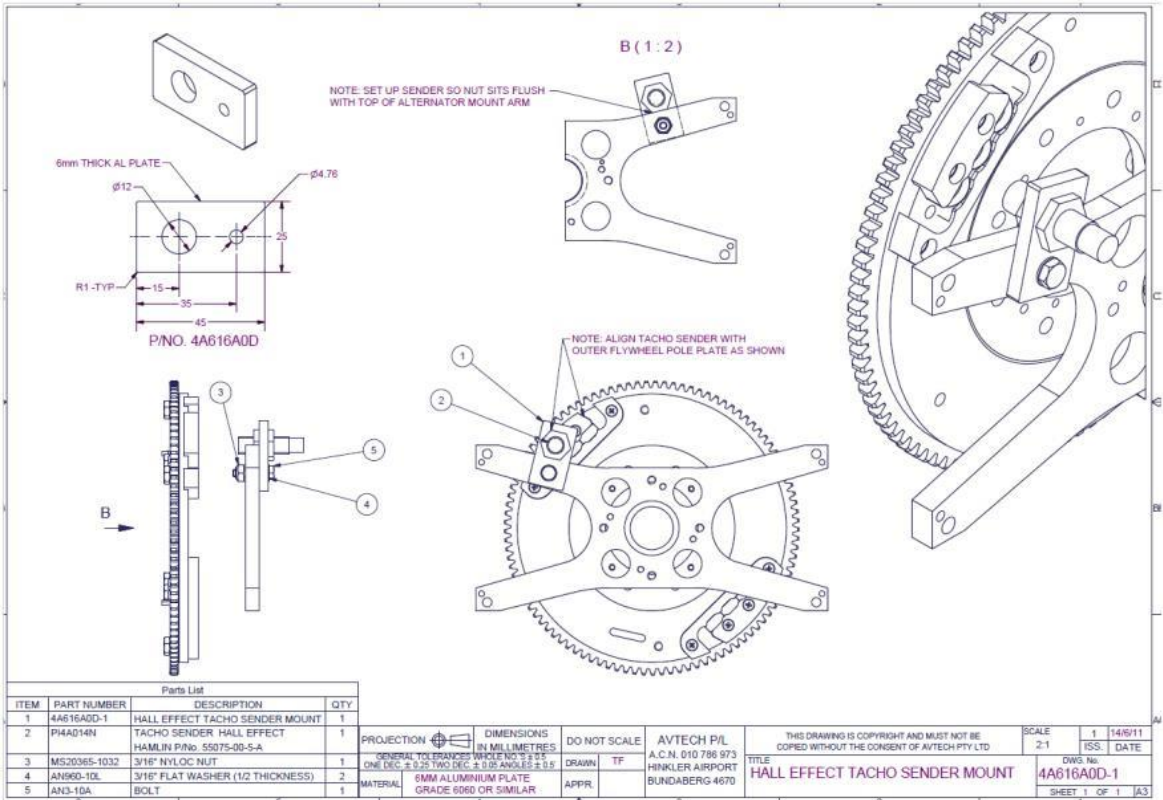

Figure 154 – Hall affect Tacho Sender
- Where the hall-effect type tacho sender is used (Figure 154) it must be installed during final assembly